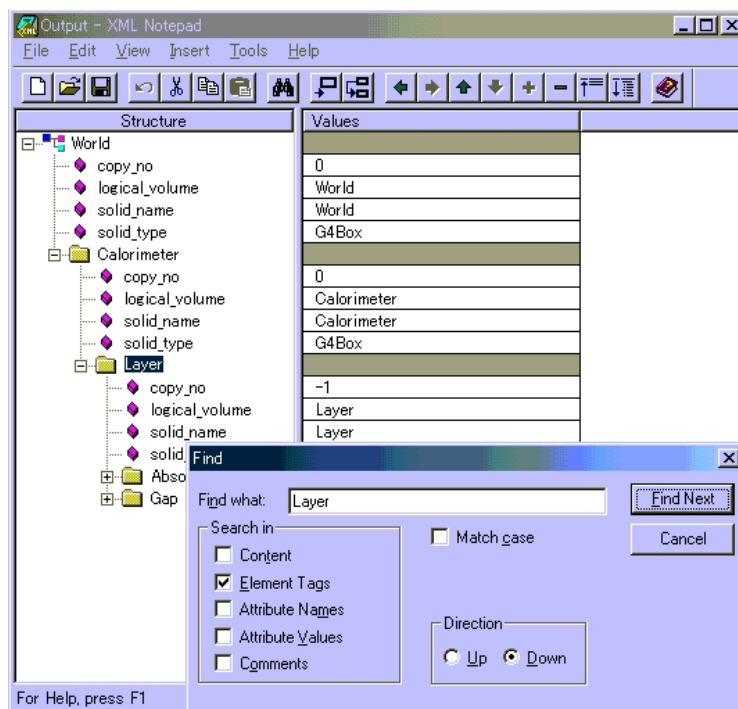

Fig. 8.3: XML Tree searching for a string.
- Searching a string (Fig. 8.3):